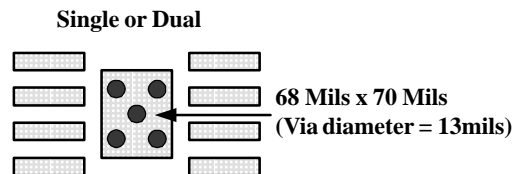

Figure 112. PowerPAD PCB Etch and Via Pattern
- Prepare the PCB with a top side etch pattern as shown in Figure 112. There should be etch for the leads as well as etch for the thermal pad.